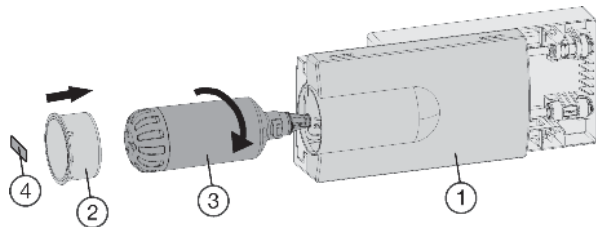

Fig. 8
- ▶ Insert the water filter *Fig. 8 (3)* and turn it approximately 100° clockwise until it locks into position.
- ▶ Slide the tray *Fig. 8 (1)* in.
- ▶ Place the cover *Fig. 8 (2)* on the filter.
- ▶ Write the date of the next filter replacement on the supplied adhesive label *Fig. 8 (4)* and affix it to the module.